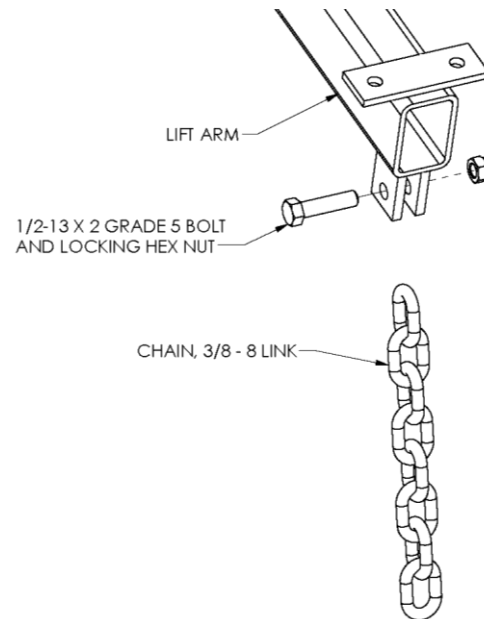

Figure 11
2. Bolt an 8-link lift chain between the chain tabs at the rear end of each lift arm. Use 1/2" x 2" grade 5 bolts and locking hex nuts. Refer to Figure 11.